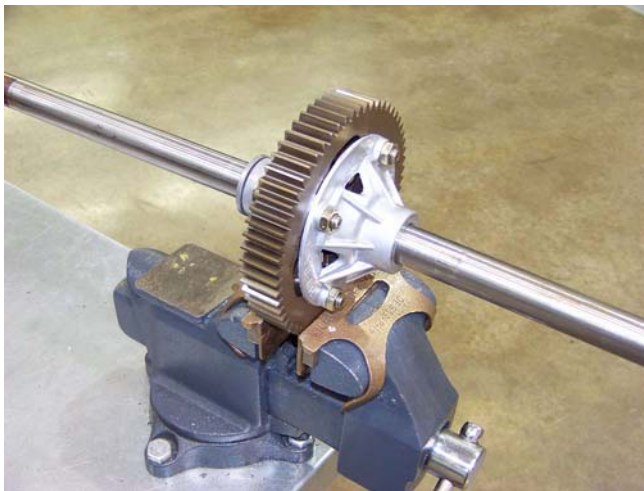

Figure 5.57
13. Secure the 60T spur gear in the soft jawed vice. See Figure 5.57.